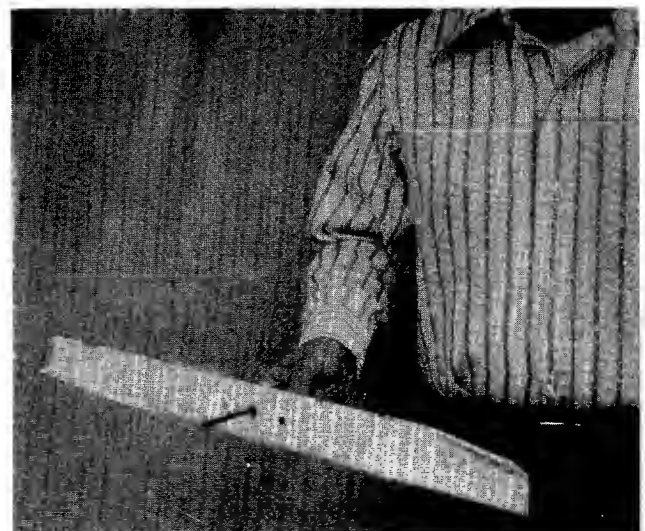

**FIGURE 19**
4. Remove the two smaller bolts, lockwashers and nuts holding the blade to the adapter. (See figure 19.)